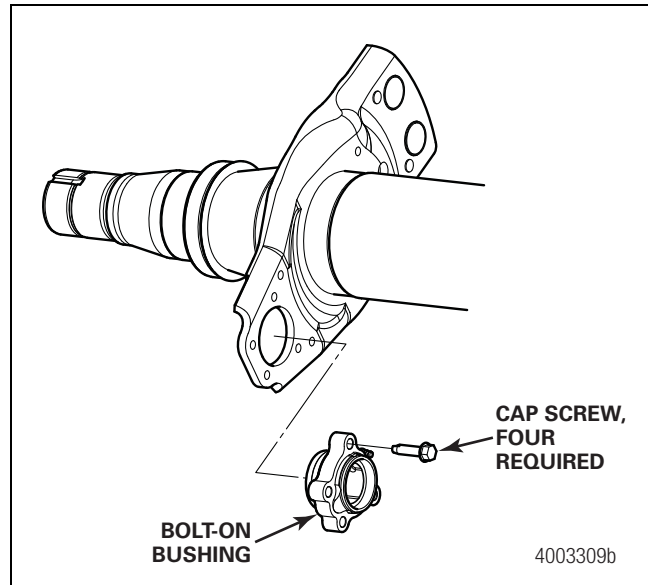

Figure 11.8
- A bolt-on retainer and bushing assembly can only be installed onto the stamped spider with four holes. Figure 11.8.